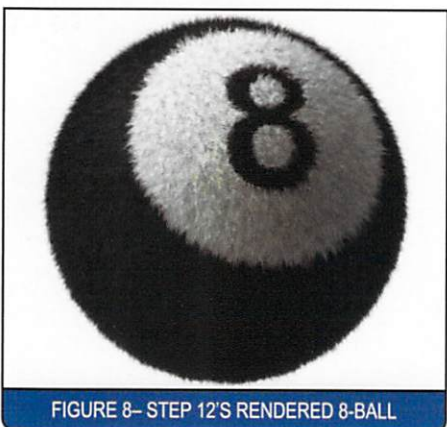

FIGURE 8- STEP 12'S RENDERED 8-BALL
12. Render the 8-Ball (F9). **SEE FIGURE 8**.